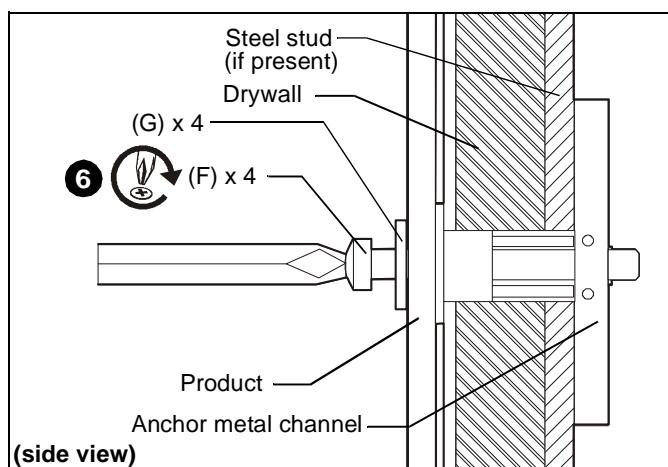

Figure 30
6. Insert 1/4-20 x 1-3/4" Phillips pan head screw (F) through 1/4" washer (G), corresponding mounting hole in product and into anchor (H), and tighten until flush against product. DO NOT over tighten! (See Figure 30)